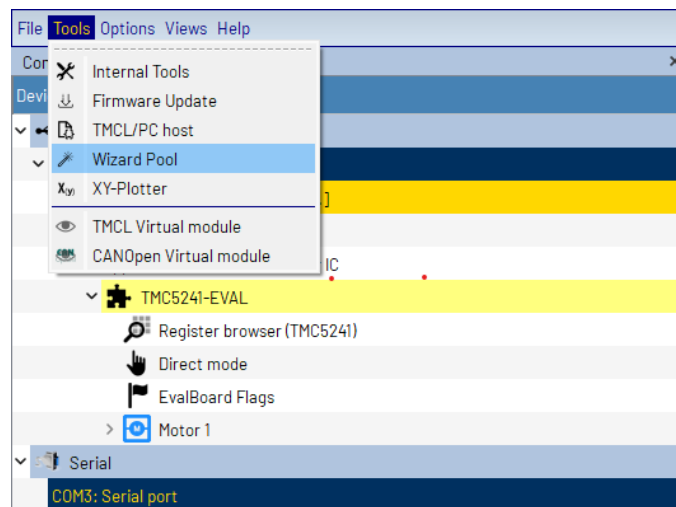

Figure 4. TMCL-IDE Wizard Pool Selection
3. A step-by-step guide to set up Stallguard2, StealthChop or μ Step is available. Click **Tools** on the menu bar, and select **Wizard Pool** as shown in Figure 4. The wizard provides a simple guide to set up the TMC5241 with the connected motor.